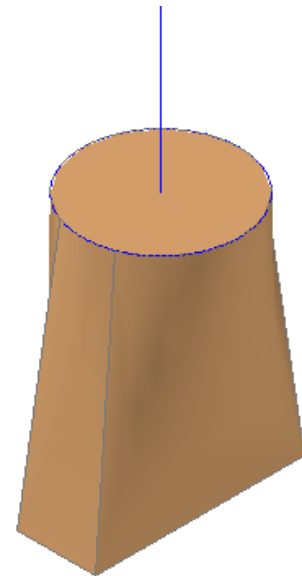

Figure Step 24
Step 24 Using what you already learned in the workalong, change the layer of the solid created in Step 23 to layer: Solid.off. Create a solid using the loft command between the circle and the rectangle. (Figure Step 24)